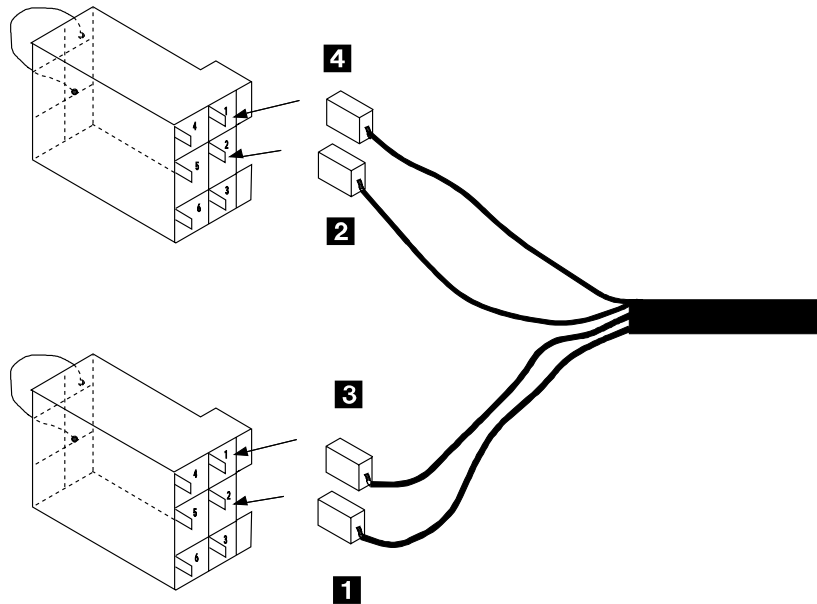

Figure 2-31. EPO Plugs (PN 8482303)
- Step 1. \_\_\_\_ Connect the UEPO cable (PN 76F9341) leads **1** and **3**, and **2** and **4** to the EPO plugs (PN 8482303) pins 1 and 2 (see Figure 2-31).